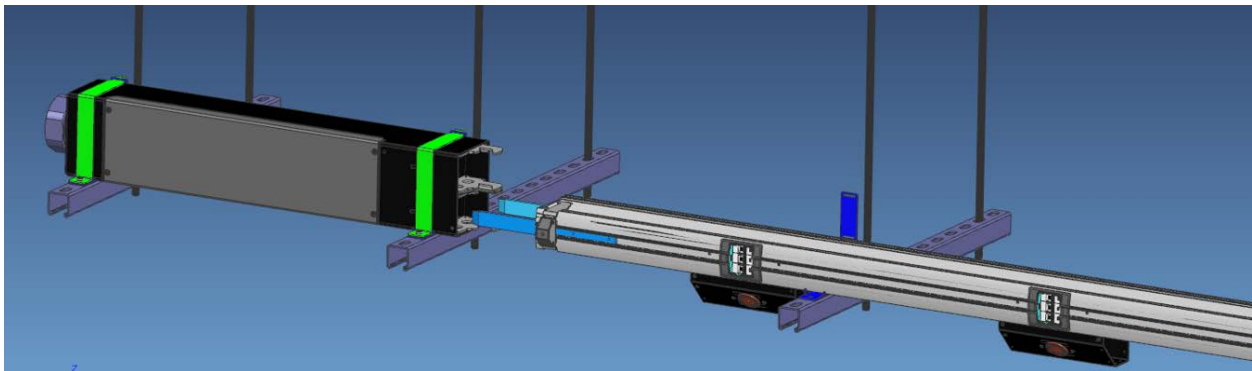

Figure 10 – Set PDM1-B module on base brackets
1. Set PDM-B on suspension bracket so that the male end of the PDM-B is 1" to 2" from the PFM's bottom receptacle (Figure 10).